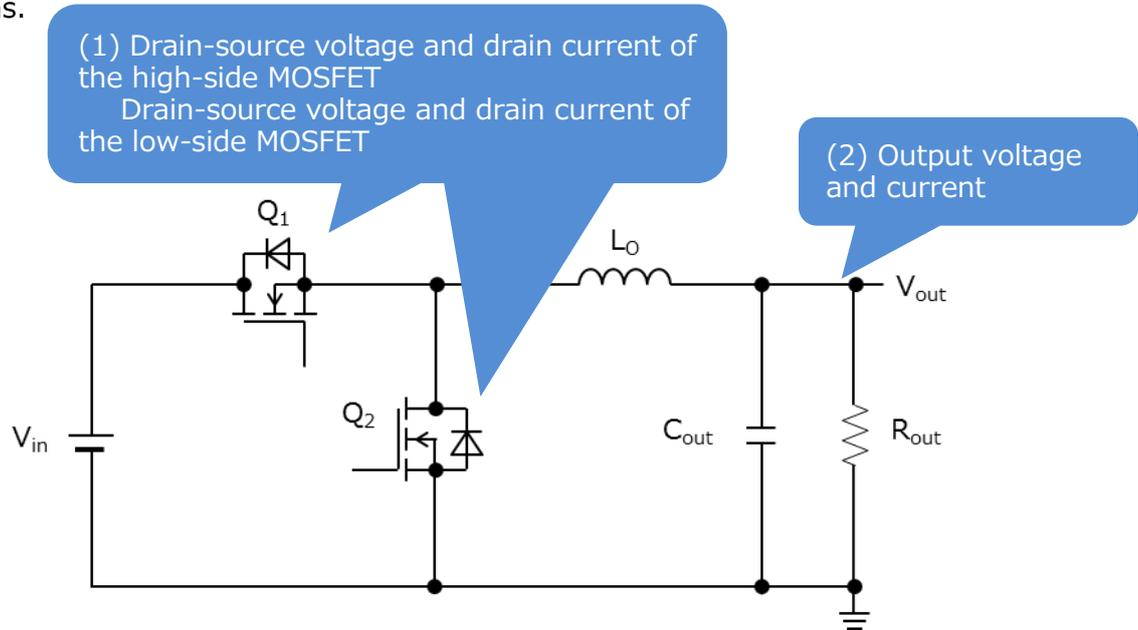

Fig. 3.1 Points at which simulation waveforms are measured
This section shows the simulation waveforms at the points (1) to (2) shown in Fig. 3.1.
- (1) A non-isolated DC-DC power supply (buck converter) basic operation (Drain-source voltage and drain current of the high-side and low-side MOSFETs, and output inductor current)
- (2) Output voltage and current from the DC-DC power supply